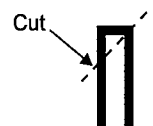

Figure 76A
Step 36. Cut a 7" length of fuel tubing (166) from the piece supplied.
Step 37. Cut one end of the 7" piece of tubing at a 45° angle as shown in figure 76A. Install the uncut side of the tubing to the forward fitting on the top of the fuel tank (38).
Step 38. Route the tubing to the right of the center chassis brace (37), under the stiffener, and behind the rear steering servo post (40), as shown. Insert the cut end of the tubing into the inside (small) hole in the tuned pipe (161).